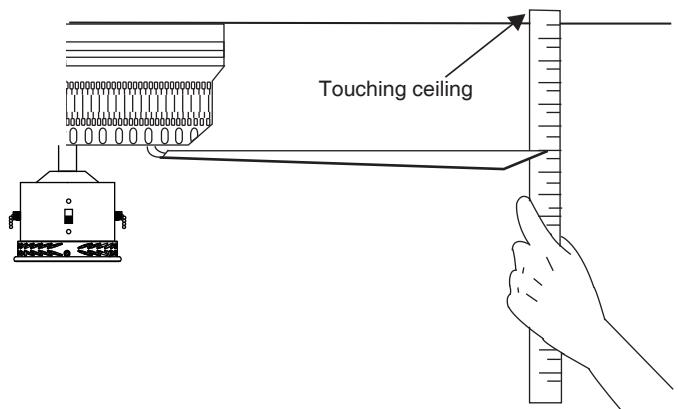

Fig. 11
2. Most fan wobble problems are caused when blade levels are unequal. Check this level by selecting a point on the ceiling above the tip of one of the blades. Measure from a point on the center of each blade to the point on the ceiling as shown in Fig. 11. Rotate the fan until the next blade is positioned for measurement. Repeat for each blade. Measurements deviation should be within $1/8"$ (3.2 mm). Run the fan for 10 minutes.